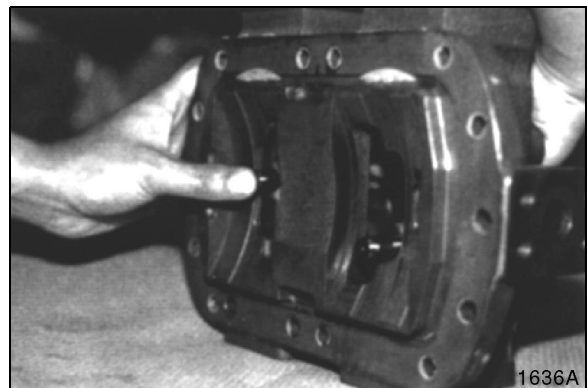

Figure 43
15. Remove rod by pressing down with one hand and turning back and forth with the other hand. See Figure 43.